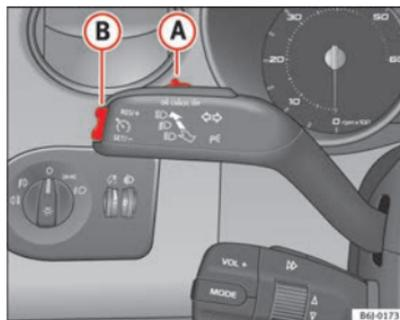

Fig. 114 Turn signal and main beam headlight lever: switch and rocker switch for the cruise control
- Press the upper part **RES** of the rocker switch ⇒ fig. 114 **(B)** to increase the speed. The vehicle will continue to accelerate as long as you keep the rocker switch pressed. When you release the switch, the new speed is stored.
Cruise control is switched off if you reduce speed by depressing the brake pedal. Reactivate the control by pressing once on the upper part of the rocker switch **RES+** ⇒ fig. 114 **B**.